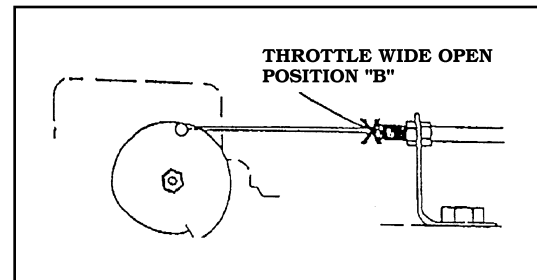

FIGURE 5
- B. DEPRESS ACCELERATOR PEDAL AND MAKE A MARK ON THE THROTTLE CABLE WHEN THE THROTTLE IS IN THE WIDE OPEN POSITION. **FIGURE 5**